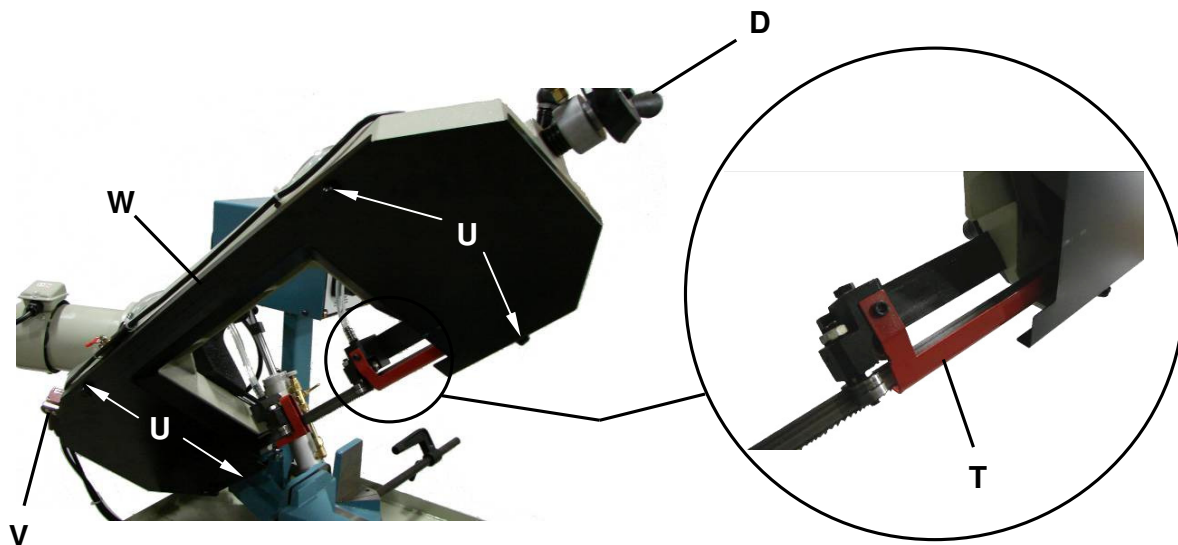

figure 5
1. Raise the saw bow. (figure 5)
2. Remove the front blade guard (**T**) and the (4) knobs (**U**) holding on the main blade guard. Carefully pull out the tongue from the safety interlock switch (**V**)